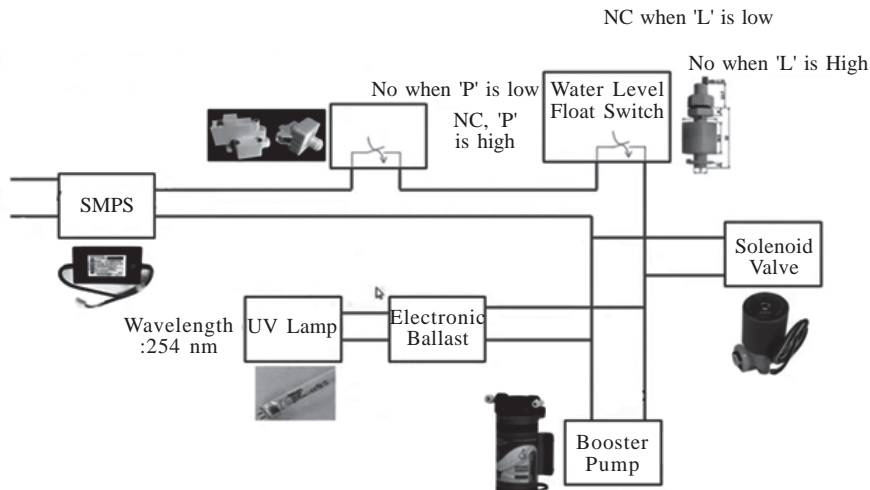

Figure 7.1 : Internal electrical diagram of a water purifier
4. Make internal electrical connections of a water purifier unit as given in the service / installation manual as given in (also refer to Figure 7.1)